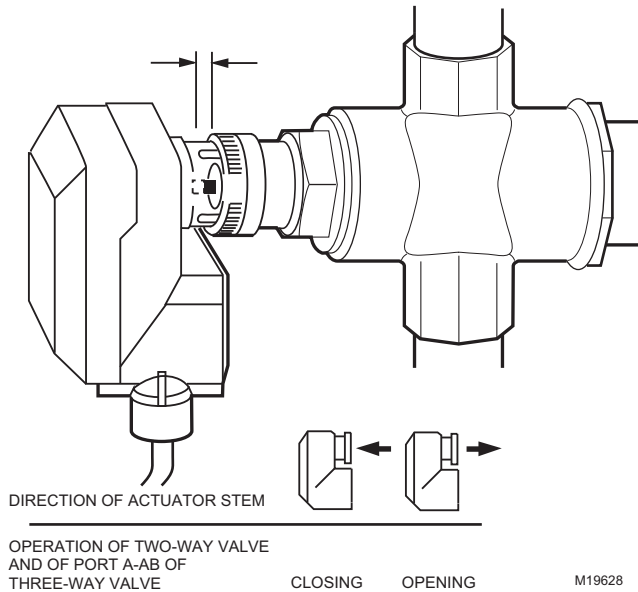

Fig. 14. Direction of actuator stem during operation (M6410 shown).
2. Make sure the actuator either opens or closes the valve, depending on the direction of the temperature change. See Fig. 14.
1. Change the Y input signal. The movement of the actuator stem (Fig. 14) indicates if the valve is opening or closing.